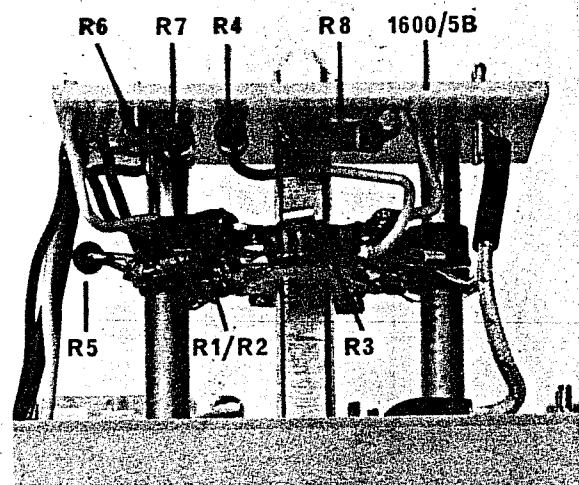

Fig. 5. Component Location -Range Switch & 1600/5B
11. To remove a printed circuit sub-assembly, undo the fixing nuts (see Figs 5 & 11). Lift off the printed circuit board and carefully unsolder leads as necessary.